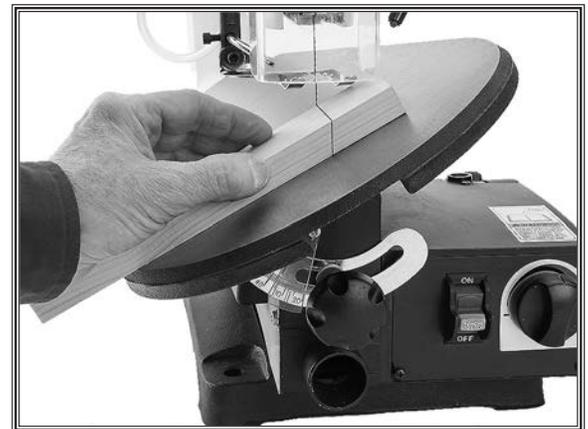

Figure 22. Example of making a bevel cut.
3. Turn machine **ON**, then feed workpiece slowly and evenly into blade. Remember not to force workpiece. Allow the blade to do the cutting according to the rate it was designed for (see **Figure 22**).